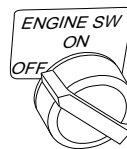

**Figure 30 - Fuel Valve Lever Off (Model RGH7500AIE Shown)**
4. Turn fuel valve lever off except on Model RGH3000PR. Do this by moving valve lever fully to the left (see Figure 30).